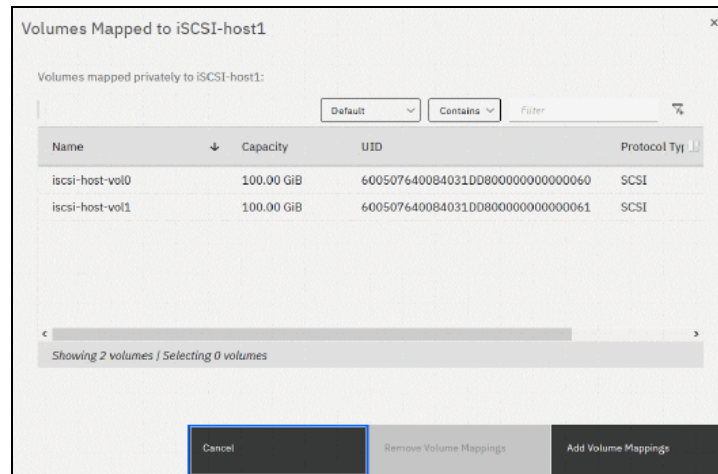
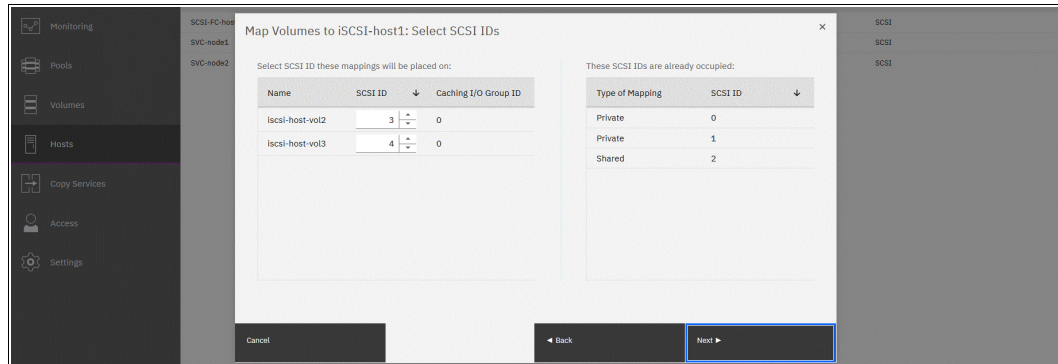

Figure 7-43 Modifying the host volume mappings
Figure 7-46 Choosing SCSI IDs manually
2. Verify the correct private volume mappings are displayed in the pop-up window (see Figure 7-43).
The storage system automatically assigns the next available SCSI ID for new mappings by default. However, the SCSI logical unit number (LUN) IDs can be assigned manually by clicking **Self Assign** (see Figure 7-46). In Figure 7-43 on page 516, only two mappings are shown for this host; however, Figure 7-46 shows three mappings because the third mapping is a shared host cluster mapping, which was not shown in previous views.